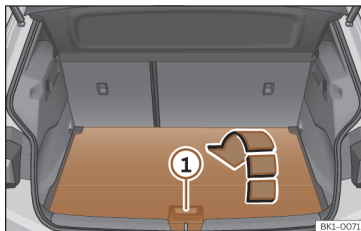

Fig. 137 In the luggage compartment: open the second luggage compartment floor.
- To *open* it, grasp the handle»»» **Fig. 137** ⓘ and fold the rear of the luggage compartment floor forwards in the direction of the arrow.